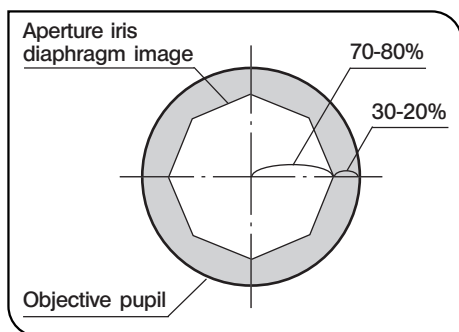
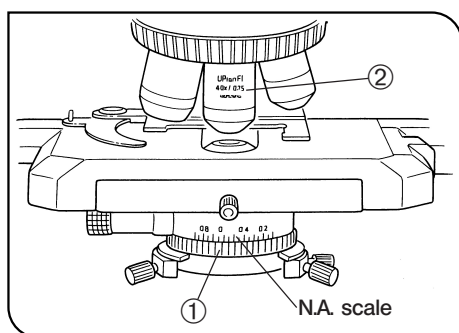

Fig. 31
Fig. 32
#### Aperture Iris Diaphragm (Figs. 31 & 32)
- Since the contrast of microscope specimens is ordinarily low, setting the condenser aperture iris diaphragm to between 70 and 80% of the NA. ② of the objective in use is usually recommended. Adjust the ratio by removing the eyepiece and looking into the eyepiece sleeve while adjusting the aperture iris diaphragm ring ① until the image shown in Fig. 31 is seen.
- ③ Using the numerical aperture scale:
You can use the condenser numerical aperture scale by adjusting the aperture iris diaphragm ring ①. (Fig. 32)